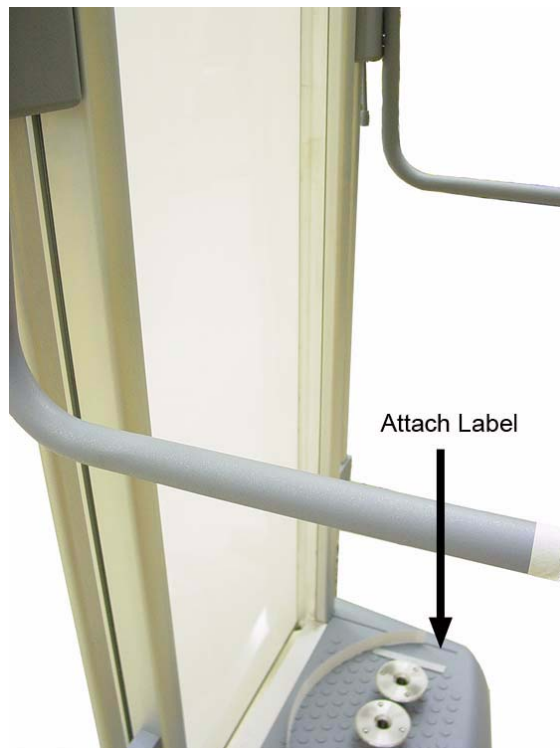

Figure 13-4 Footstand Labels
- * Place the labels in the recessed areas on the footstand with the lower numbered ends closest to the mylar surface. See Figure 13-4.